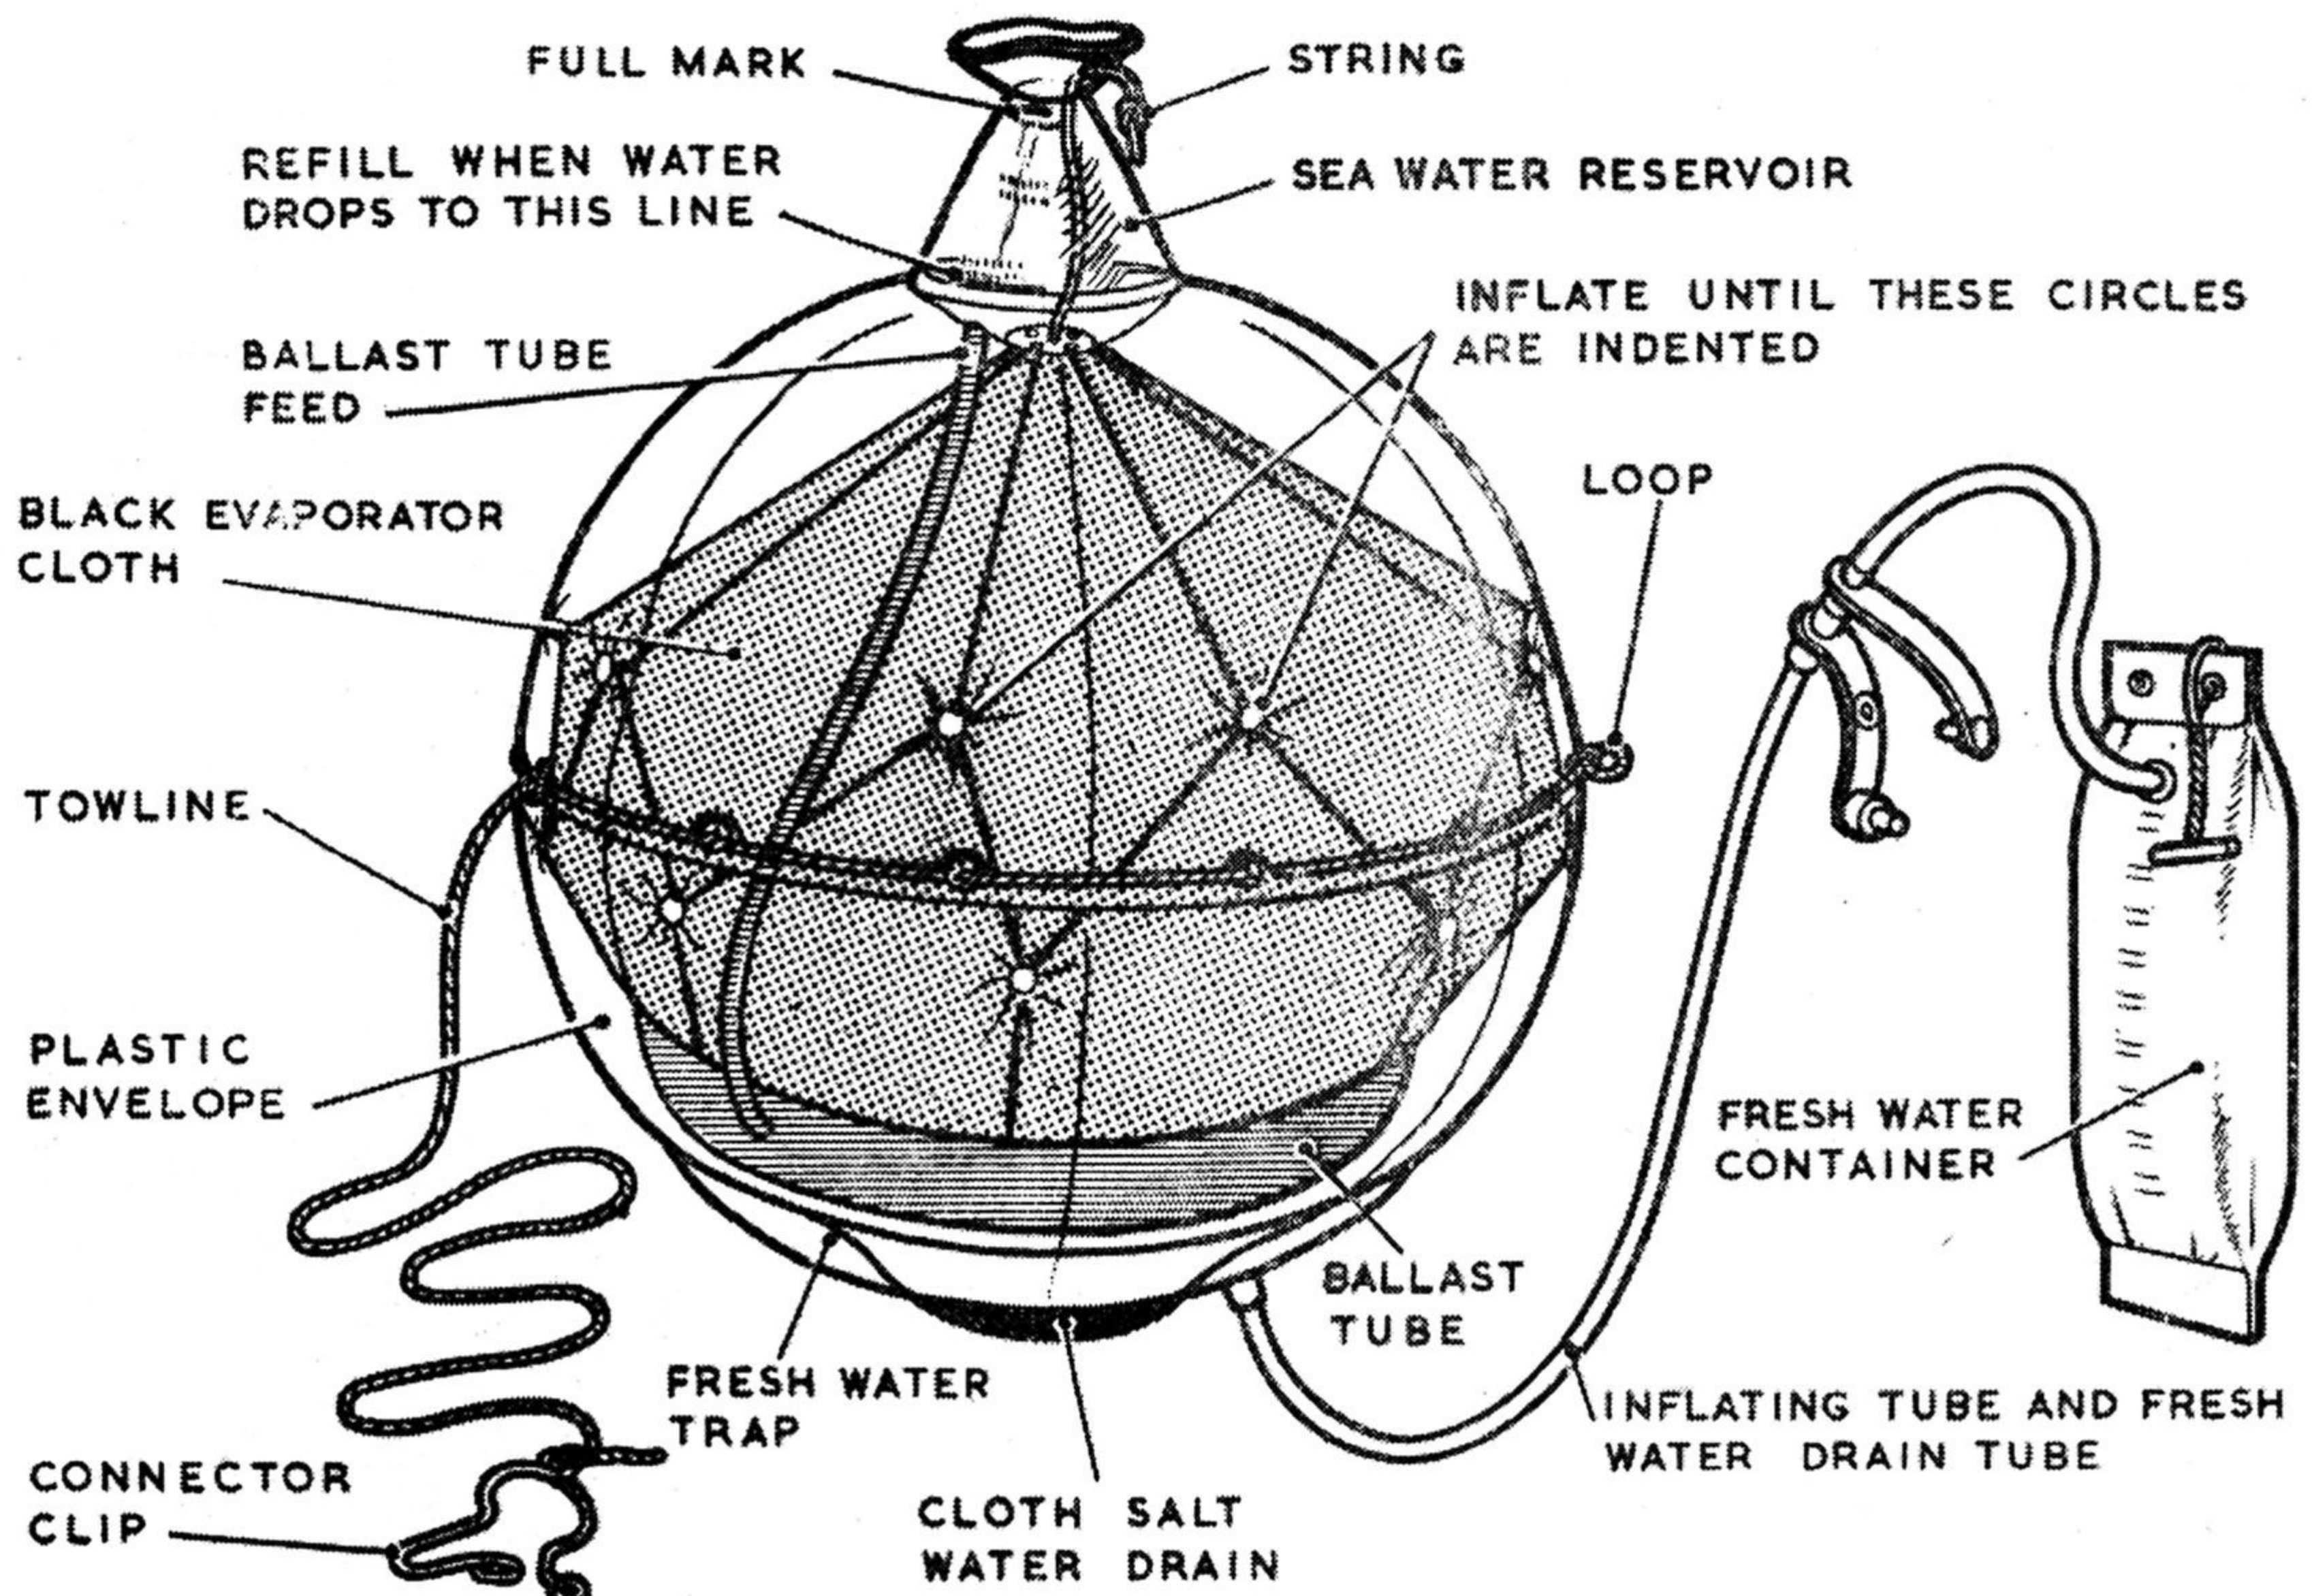

Fig. 7. Solar type sea water Stili, general arrangement
25. The Still (fig. 7) consists of a white spherical plastic outer cover and an inner black evaporator cloth bag which is also spherical, but smaller. Below the evaporator cloth bag is a ballast tube which is filled with sea water to keep the apparatus floating upright.